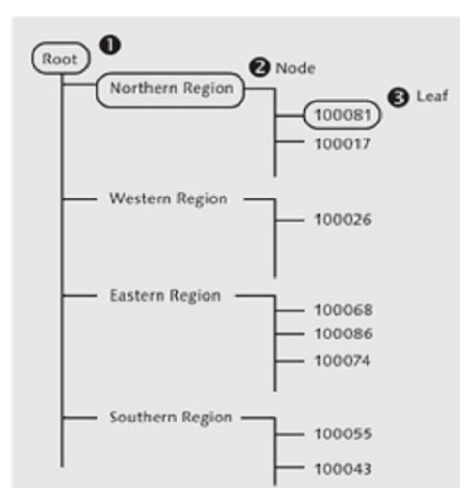
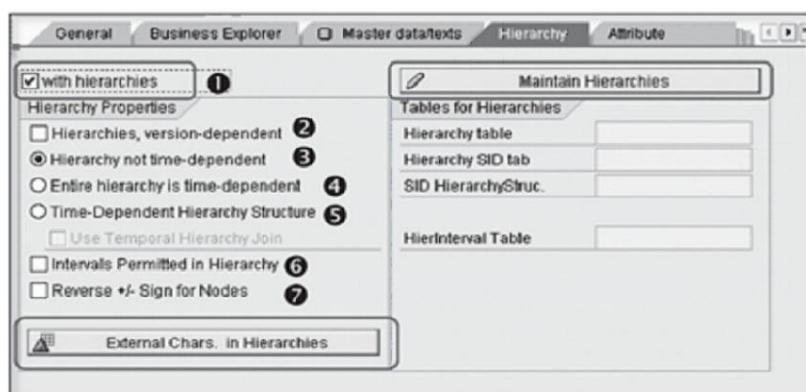
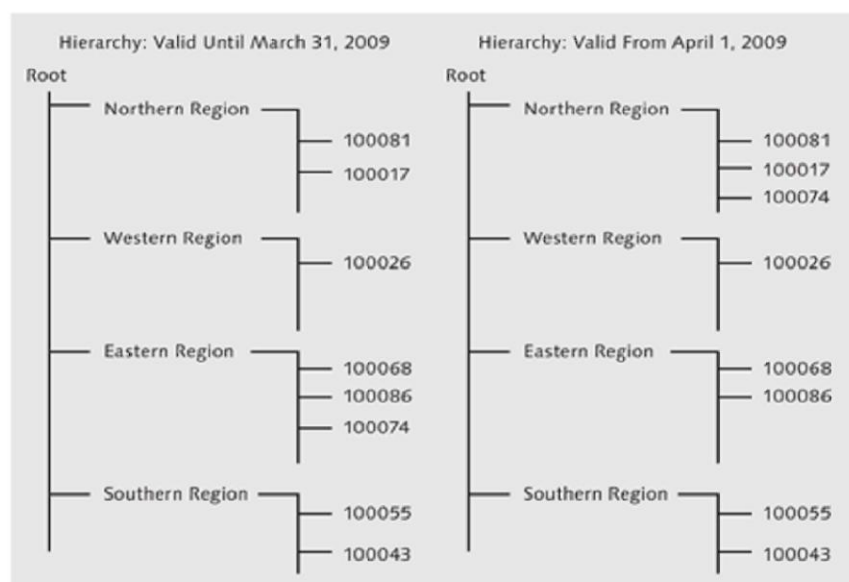
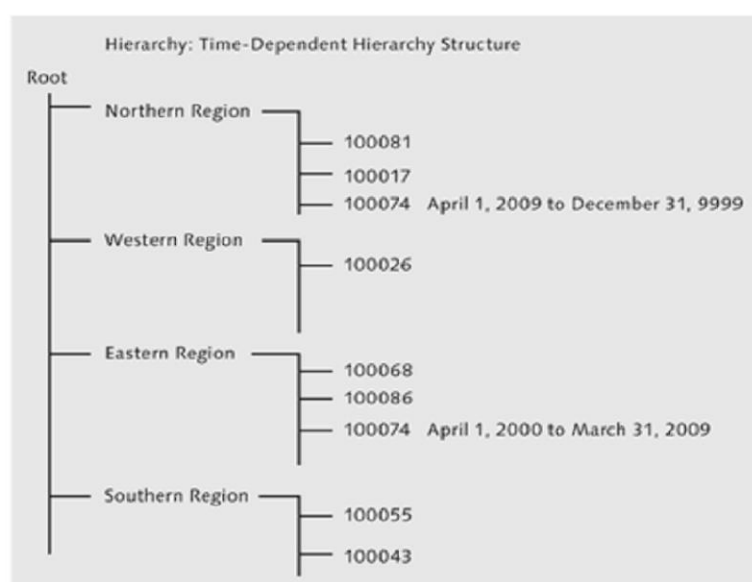

Figure 3.20 Customer: Regional Hierarchy
Figure 3.21 Hierarchies Tab
Figure 3.23 Entire Hierarchy Is Time-Dependent
Figure 3.24 Time-Dependent Hierarchy Structure
Consider an example of customer data where each customer (sold-to-party) is assigned to a specific region. A hierarchy representing this relationship between customer and region can be built on the customer characteristic (Figure 3.20).
Check the With Hierarchies box (1 of Figure 3.21) to enable hierarchies for a characteristic InfoObject.
You can either manually create a hierarchy or load it from the source system. Two types of parent nodes are available in a hierarchy: the text node and the characteristic node. Each hierarchy has a root node. You can add a text node (such as, from our example, Northern region, Western region, Eastern region, or Southern region) and then add a leaf (which is a characteristic value, in this case, because the hierarchy is based on customers) below the text node, as shown earlier in Figure 3.20.
To configure a hierarchy for this InfoObject (BW_CUST), check the With Hierarchies checkbox. SAP NetWeaver BW then allows you to configure the other options shown in Figure 3.21.
To provide analysts the flexibility to analyze data in different ways, it's possible to create multiple hierarchies for a characteristic, as well as multiple versions of the same hierarchy. For example, consider a situation where, due to re-organization, customer 100074 moves from the Eastern region to the Northern region. If your business analyst doesn't want to lose data from the former relationship (i.e., customer 100074 as a part of the Eastern region), you can create a new version of the hierarchy by defining the hierarchy as version-dependent. To do this, flag the Hierarchies, Version Dependent checkbox (2 of Figure 3.21). You can now add a new
The Hierarchy tab has settings related to time-dependency. By default, the hierarchy isn't time dependent (refer to ③ of Figure 3.21), which means that it's valid for all time periods. The other two time-dependent settings are Entire Hierarchy Is Time-Dependent, and Time-Dependent Hierarchy Structure. The key difference between these two options is that, with the former, you create a new hierarchy structure with a new validity period. With the latter, you have a single hierarchy with different nodes/leafs that have different validity periods.
to the Northern region. Let's also assume that this change of region is applicable from a specific date: April 1, 2009. For this situation, you must enter the validity period, not the version, when creating a hierarchy with a new relationship. This can be done by choosing the Entire Hierarchy Is Time-Dependent radio button (refer to 4 of Figure 3.21), which means that the time validity is applicable for the entire hierarchy. This option provides another type of flexibility to business analysts: They can now analyze region data based on a specific time period. To do this, the analyst must choose a specific date; based on this date, the system uses the appropriate hierarchy. In our example, if the date chosen by an analyst is before March 31, 2009, customer 100074 is shown as part of the Eastern Region; otherwise, it's shown as part of the Northern Region (Figure 3.23).
The Time-Dependent Hierarchy Structure option (refer to ⑤ of Figure 3.21) is used when you want to use a single hierarchy, but when you also have leaf values (refer to ① of Figure 3.20) that change nodes (refer to ② of Figure 3.20) based on the time period. For example, assume customer 100074 was attached to the Eastern Region from April 1, 2000 to March 31, 2009, and, from April 1, 2009 onward, is changed to the Northern Region. In this case, the system automatically maintains the end validity date as March 31, 2009. At runtime, SAP NetWeaver BW uses the date chosen in the query to construct the structure of the hierarchy. In Figure 3.24, you can see that customer 100074 is part of two nodes (Eastern Region as well as Northern Region) but with different validity periods.
In some cases, there are such a large number of customers that assigning each one to a node in a hierarchy and then maintaining this data when changes occur is too tedious. SAP NetWeaver BW solves this problem by using the Intervals Permitted in Hierarchy option (6 of Figure 3.21). By checking this flag for a hierarchy on customers grouped under regions, you can assign customers to specific regions based on their customer key values. For example, assume you've created a hierarchy where customers 000 to 105,000 belong in the Northern Region, and customers 105,001 to 110,000 belong to the Southern Region. All of the customers falling within the range are automatically assigned to their respective nodes; additionally, when you gain a new customer, the customer is automatically assigned to the correct node. For example, customer 102000 is automatically assigned to the Northern Region without specific maintenance for the hierarchy.
When the Reverse +/- Sign for Nodes checkbox (7 of Figure 3.21) is checked, you can decide whether to reverse the sign of transaction data displayed in reports. This functionality only affects the display of data in the report, and not the underlying actual data. For example, if you have a hierarchy on income and expense where income is displayed with minus signs and expenses are displayed with plus signs (according to accounting norms), this functionality allows you to display the income node with a negative sign.